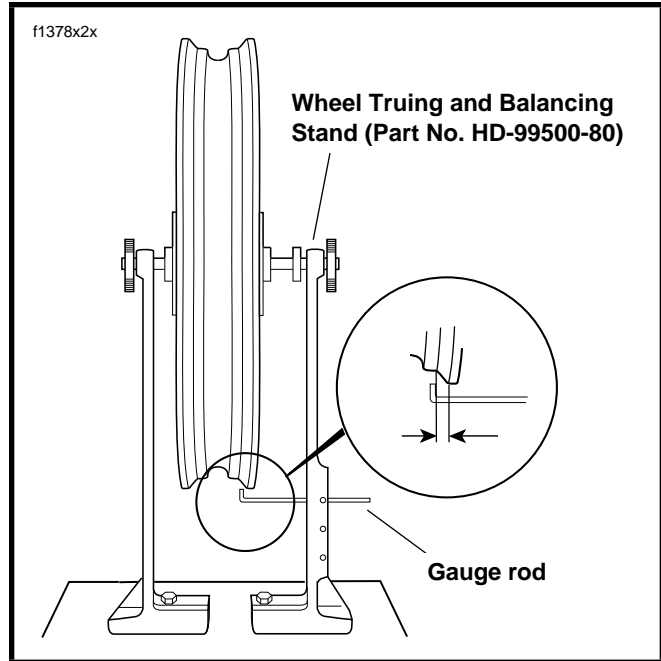

Figure 2-11. Checking Cast Rim Lateral Runout
1. See Figure 2-11. Install truing arbor in wheel hub and place wheel in **WHEEL TRUING AND BALANCING STAND (Part No. HD-99500-80)**.